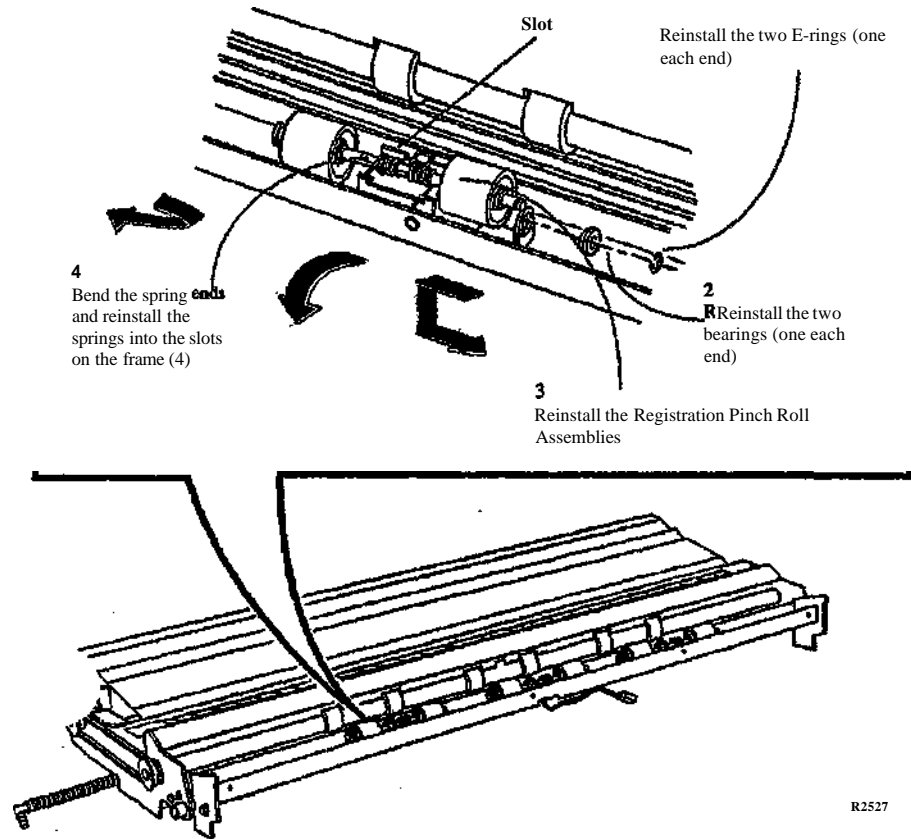

Figure 3. Reinstalling the Registration Pinch Roll Assembly
2. (Figure 3): Reinstall the Registration Pinch Roll Assembly.